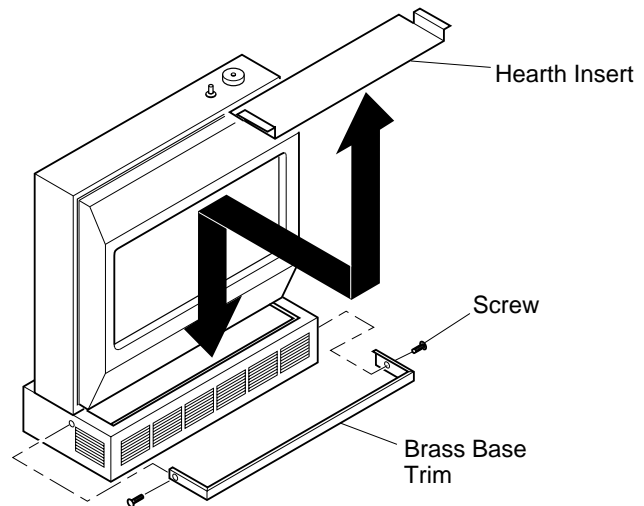

Figure 19 - Placing Hearth Insert on Heater Base and Attaching Brass Base Trim
6. Place hearth insert in hearth base as shown in Figure 19 below.
8. Slide base trim on heater base. Attach brass trim to base with two brass screws included as shown in Figure 19 below.